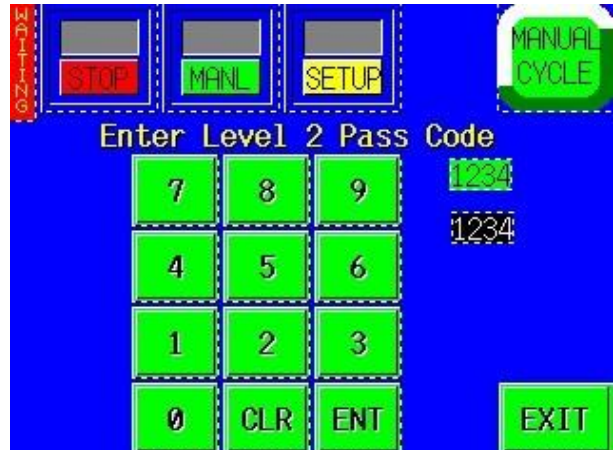

Figure 3-71
2. Level 2: This level pass code, when the pass code function is enabled, prevents the operator from accessing settings screens that affect the operation of the equipment. See Figure 3-71.